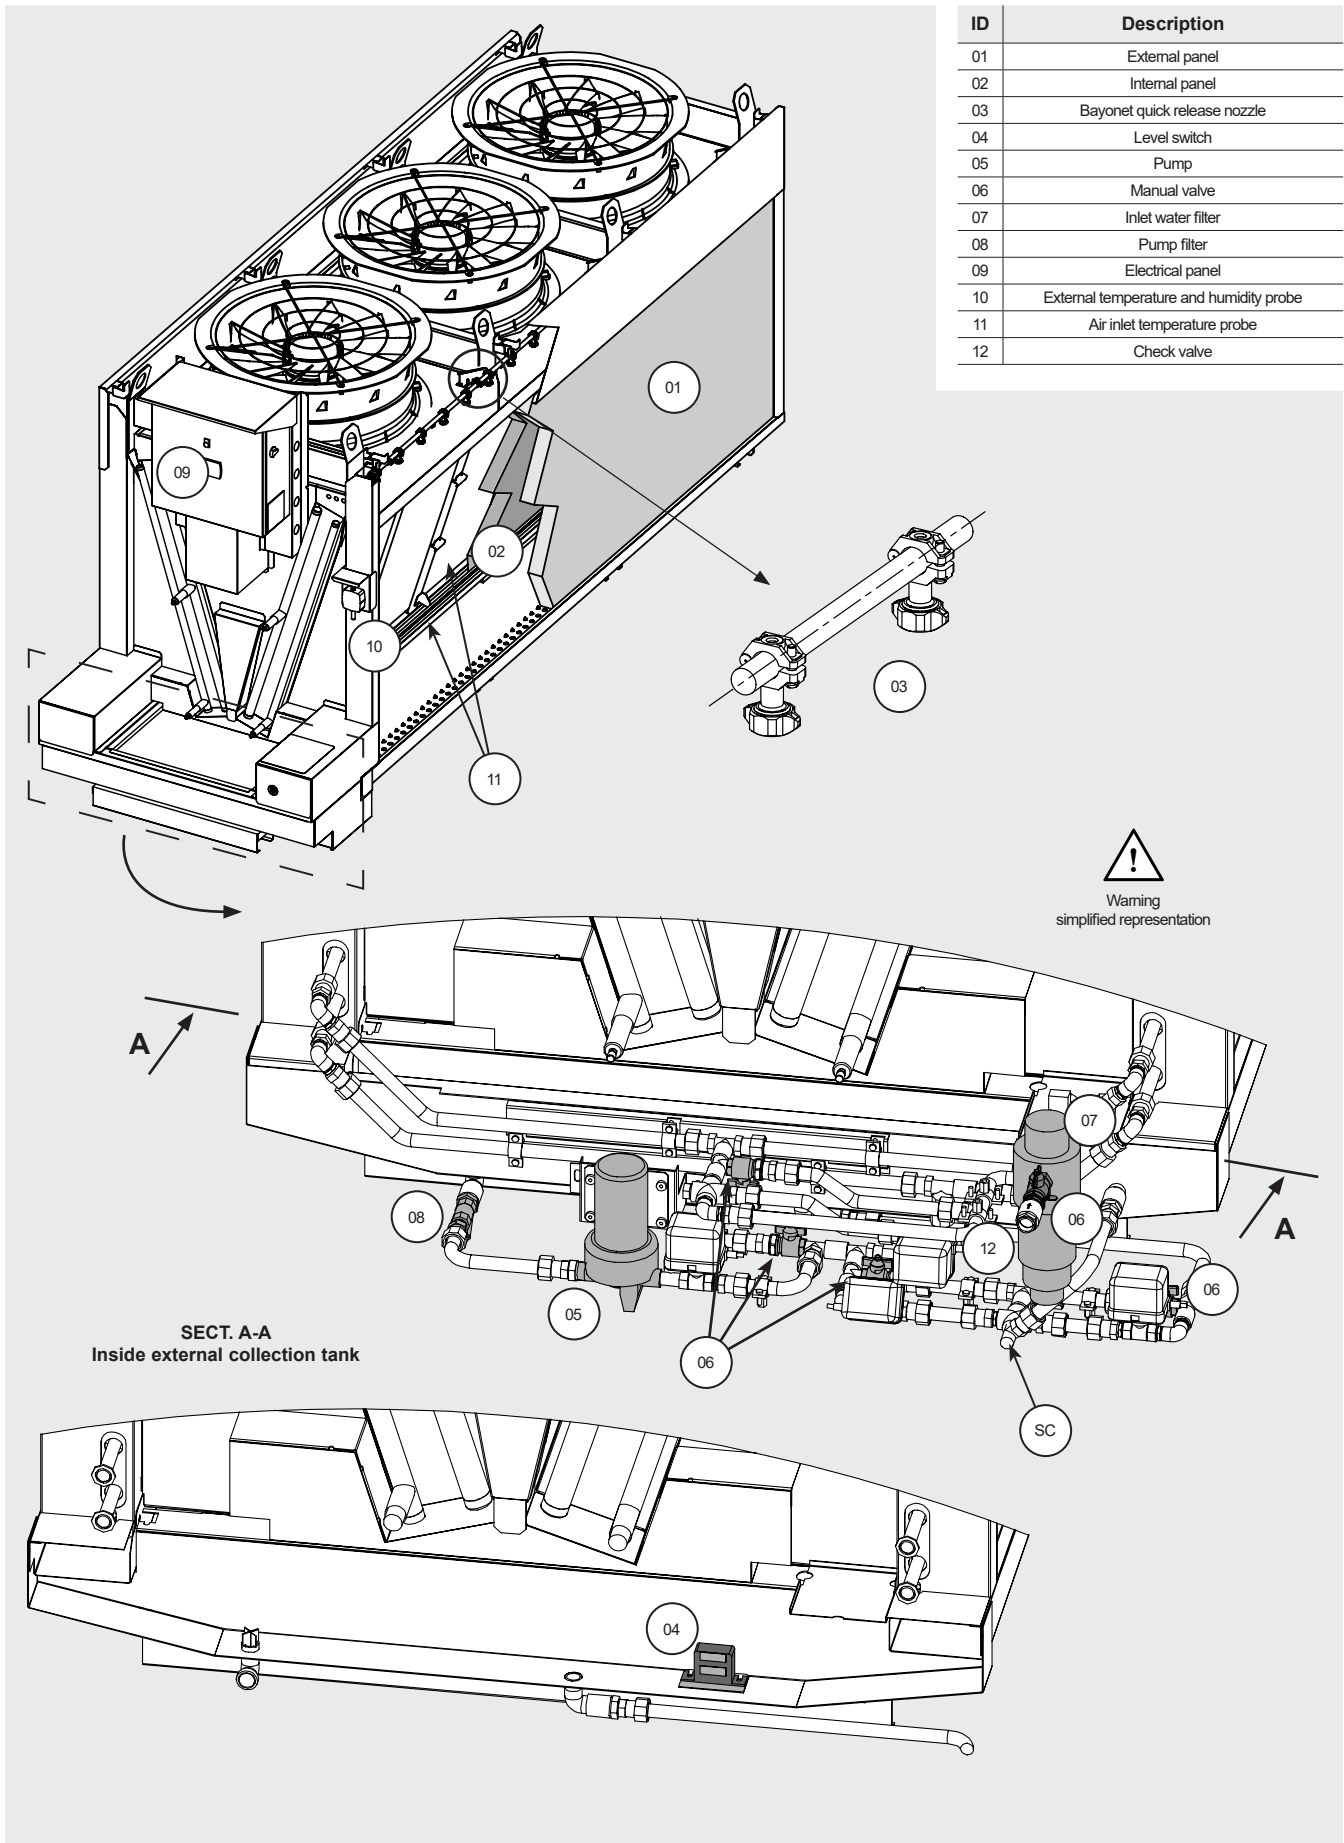

Figure 1
- 2.9.1 List of components: see Figure 1.